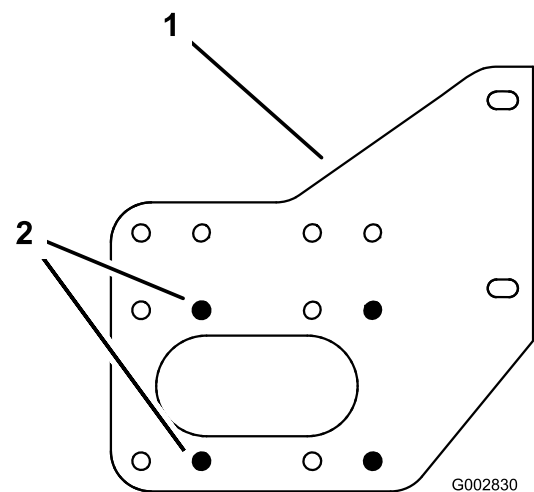

Figure 1
1. Use Figure 1 for the correct holes to use when installing the side plate and ROPS.